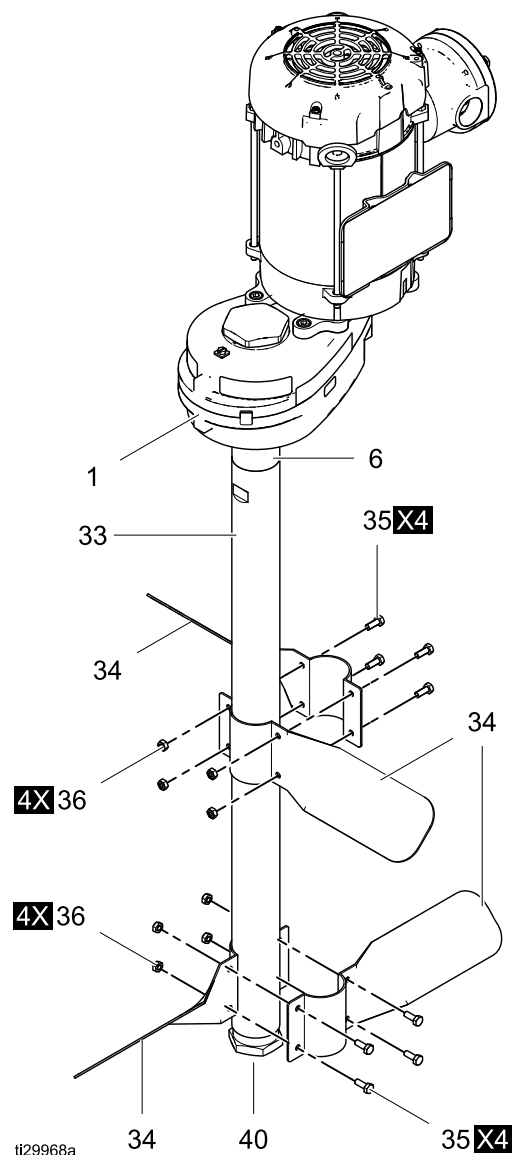

Figure 2 Agitator Shaft and Blades
1. Install the agitator shaft (33) by threading it into the stub (6) on the bottom of the back gear housing (1). See Figure 2.
5. Assemble one pair of agitator blades (34) so that the four holes in the blade halves are lined up.
6. Push four cap screws (35) through the four holes in the blades, and start the four lock nuts (36) onto the cap screws.
10. Position the second blade assembly near the bottom end of the shaft, but not on the bottom plug (40).